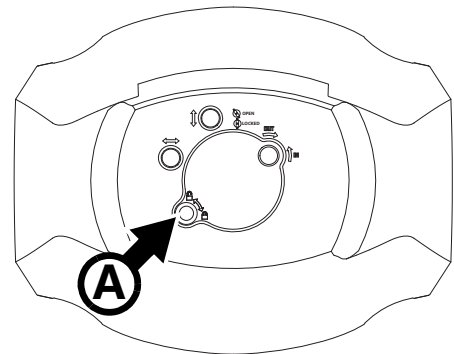

Figure 8: Lamp access
4. See Figure 8. Release the Torx 20 cover screw **A** and open the cover.